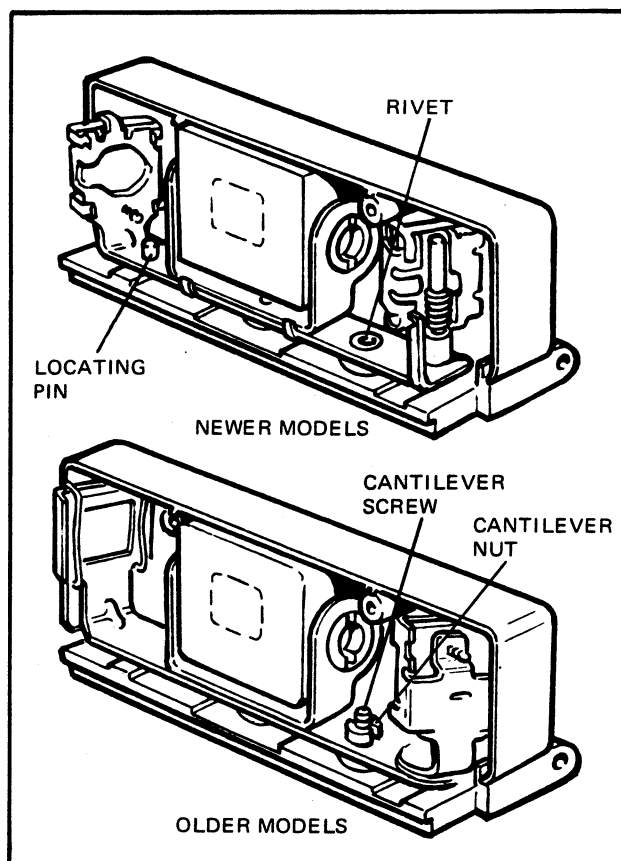

FIG. 5.55 REMOVAL OF THE CANTILEVER ASSEMBLY
3. Remove the cantilever assembly from the housing. On some models the assembly is held by a cantilever screw and nut. On other models, the assembly is held by a rivet and a locating pin (see Figure 5-55). On riveted models, use special tool #11397 to remove the rivet. (Pry up the metal band on folding models before lifting the assembly out of the housing.)